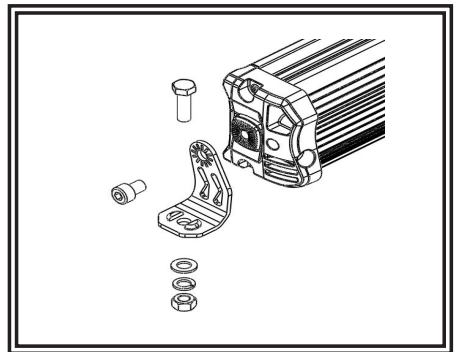

Figure 3
1. Loosely secure the brackets to the ends of the bar as shown in FIGURE 3.